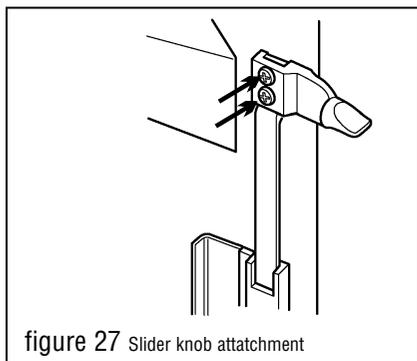

figure 27 Slider knob attachment
10.3.2 Detach the slider knob from the slider bar. See figure 27.